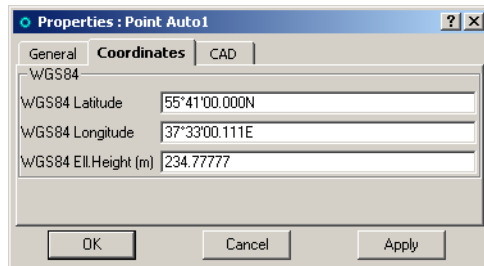

Figure 4-78. Point Properties – Coordinates Tab
3. On the **Properties** dialog box, click the *Coordinates* tab (Figure 4-78 on page 4-59).